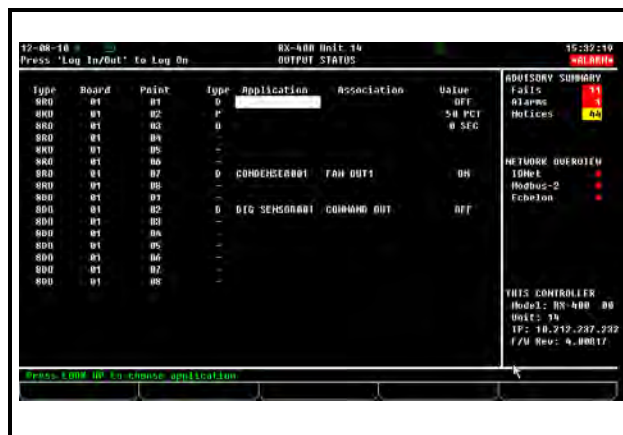

Figure 9-11 - Output Status Screen
Open the Digital Output screen by selecting a Digital (**D**) input from the Output Status screen *Figure 9-11* and pressing **F1** (SETUP).
Open the Analog Output screen by selecting an Analog (A) output from the Output Status screen *Figure 9-11* and pressing **F1** (SETUP).